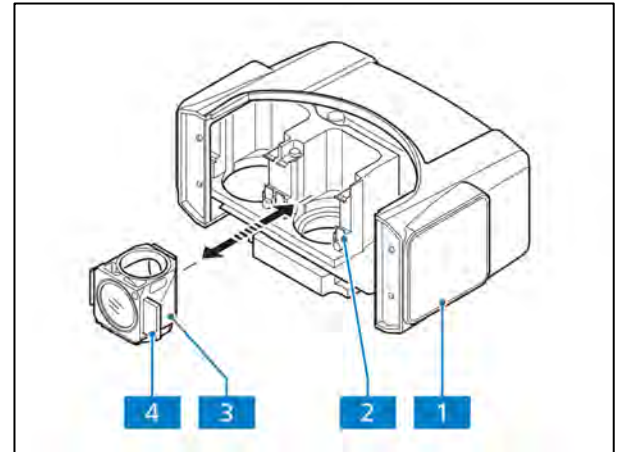

Fig. 3-8 Changing the reflector module in the reflector insert
- Remove the reflector insert (Fig. 3-8/1) from the upper part of the stand (section 3.1.7) and put it aside with the top side facing down.
- Insert the module (Fig. 3-8/3) (with the top side facing down) with the aid of its mounting elements on its left and right (Fig. 3-8/4) at a slant from the top into the lower spring clips (Fig. 3-8/2) on the reflector socket.